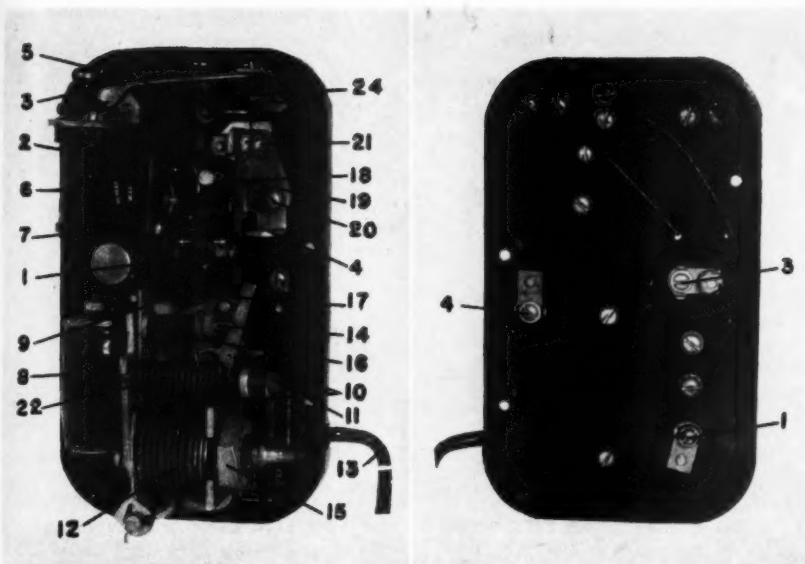

FIG. 7—FRONT AND BACK VIEWS OF 1050-A CONTROL USED ON DR-2 UNITS
CR1050-A Control—Fig. 7. Turning the main temperature adjustment screw (11) in a clockwise direction decreases the tension on the main temperature adjustment spring (22) and decreases the temperature. Turning the screw counter-clockwise increases the temperature.